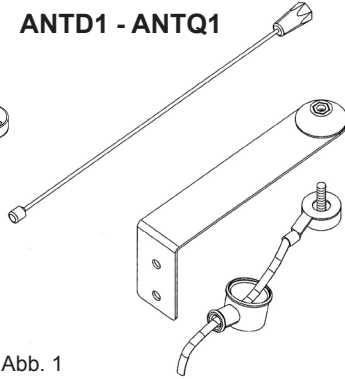

fig. 1 / Abb. 1
2. ANTENNA (fig.1)
2. AERIAL (fig. 1)
2. ANTENNE (Abb. 1)